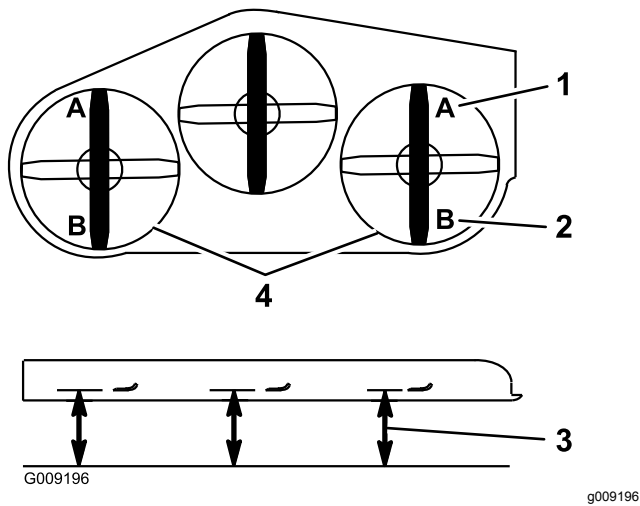

**Figure 84**
5. Push the deck-lift pedal all the way forward so the deck latches at the 14 cm (5-1/2 inch) transport position (Figure 84).